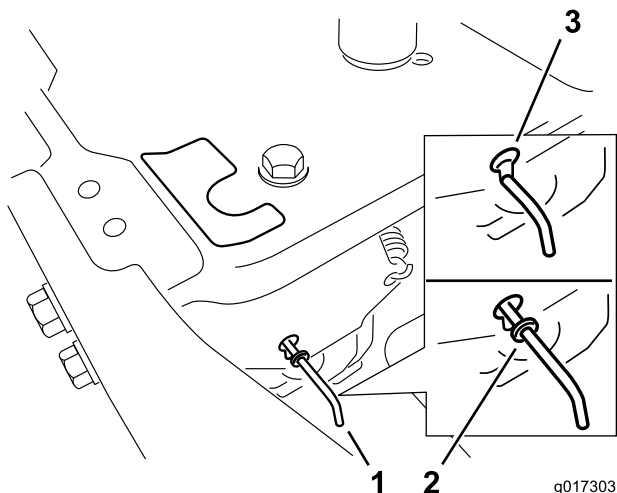

Figure 24
4. Move the bypass levers forward through the key hole and down to lock them in place as shown in Figure 24. Ensure this is done for each lever.
Move the bypass levers rearward through the key hole and down to lock them in place as shown (Figure 24). Ensure this is done for each lever.